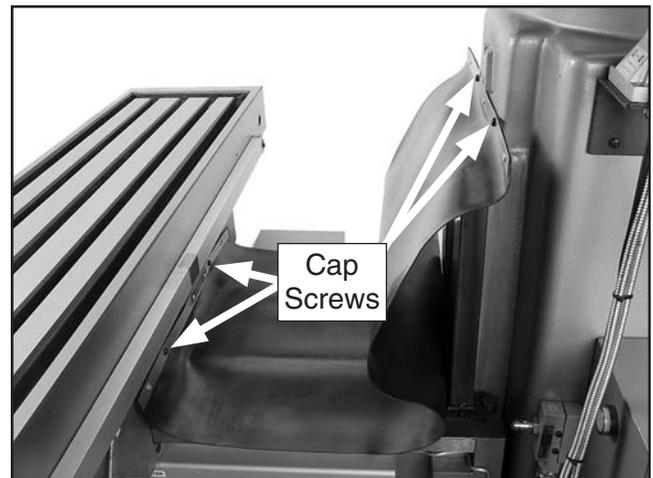

Figure 11. Rear way cover installed (digital readout scale cover removed).
4. Move table all the way forward, then attach rear way cover with the four pre-installed cap screws, as shown in **Figure 11**.